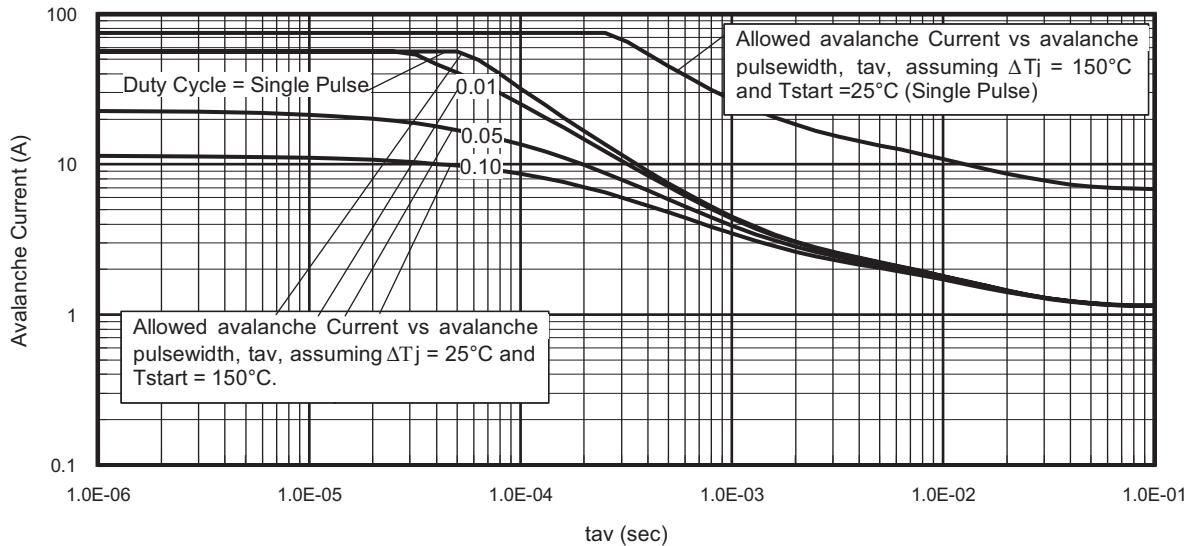

Fig 14. Typical Avalanche Current vs.Pulsewidth
**Notes on Repetitive Avalanche Curves , Figures 14, 15:
7.  $\Delta T$  = Allowable rise in junction temperature, not to exceed  $T_{jmax}$  (assumed as  $25^\circ C$  in Figure 14, 15).